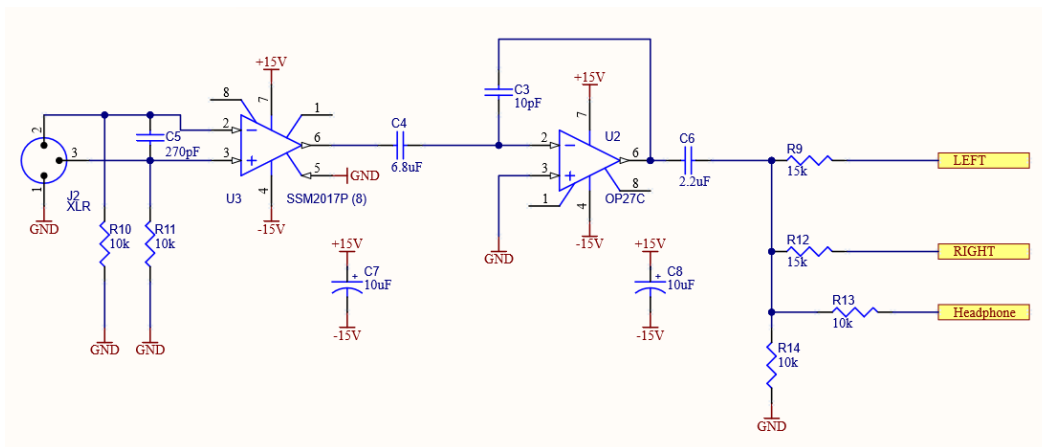

Figure 2. Lower-level schematic Input channel.SchDoc
4. The lower-level schematic is shown in Figure 2 and contains three ports (Left, Right, and Headphone). These ports have an I/O type of **Unspecified** since these are connected to passive pins.